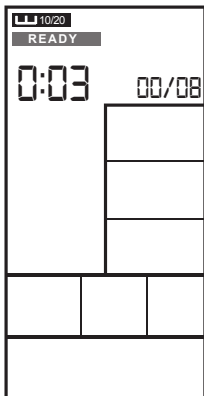

Figure 24
- 2 Cycle time counts down from 3 to 0 then console start, meanwhile buzzer beeps once per second and **READY** flashes once per second, counting displays '00/08'(Figure 24).